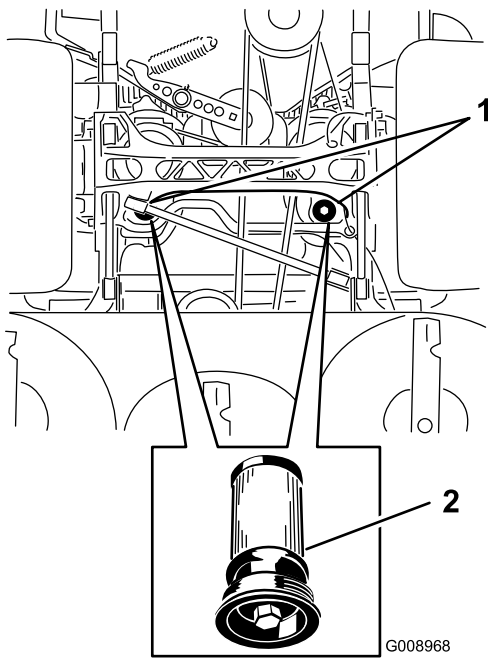

Figure 83
5. Place a drain pan under the filter, remove the old filter and wipe the surface clean (Figure 83).
6. Apply a thin coat of hydraulic oil to the rubber gasket on the replacement filter (Figure 83).